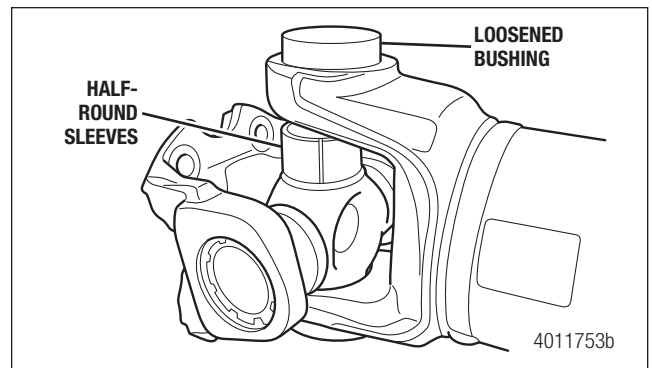

Figure 5.75
11. Install the half-round sleeves on the radius of the top trunnion. Figure 5.75.